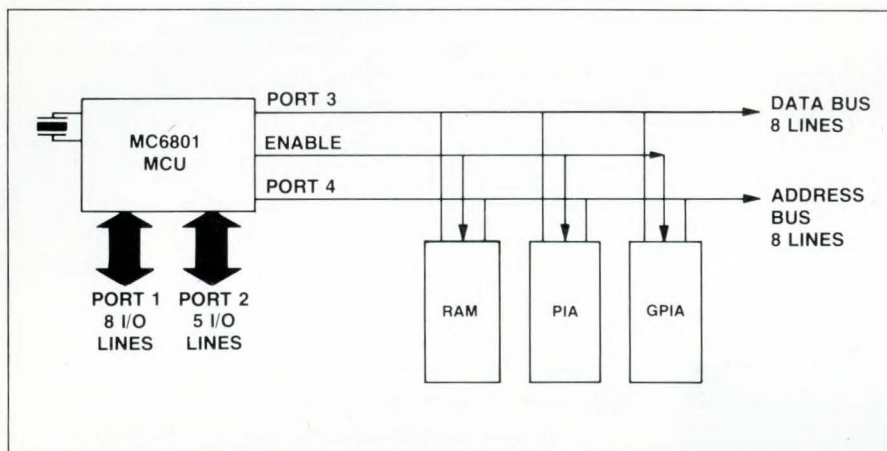

Fig 9 Expanded non-MUX'ed configuration.
In these modes Port 3 is a multiplexed address/bus (A0/D0-A7/D7) with the address being valid with the trailing edge of Address Strobe (AS) and the data valid during Enable (E). Ports 1 and 2 remain the same as in the single chip mode. Port 4 becomes the higher-order address lines in Modes 1, 2, 3. In Mode 6 the Data Direction Register for Port 4 is cleared on Reset to be all inputs, and the data direction register bits must be programmed for outputs after Reset to provide any or all of the higher order 8 bits of the address bus (A8-A15). Using Mode 6 only, the designer may select a subset of upper 8 bits of the address bus while retaining the remainder as input data lines. In these modes, MC6801 is expandable to a 64K byte address space. Fig. 9 shows the MC6801 in the Expanded Multiplexed Modes.
The system configuration shown in Fig 9 shows the MC6801 operating in the Expanded Multiplexed Mode. This configuration uses an 8-bit latch for the 8 low-order address lines to interface with standard MC6800-family parts. The address strobe (AS) is used to latch the address lines so these lines can become data bus lines during the E pulse. The transparent octal D-type latch (MC34828) can be used with the MC6801 to latch the address' LSB.